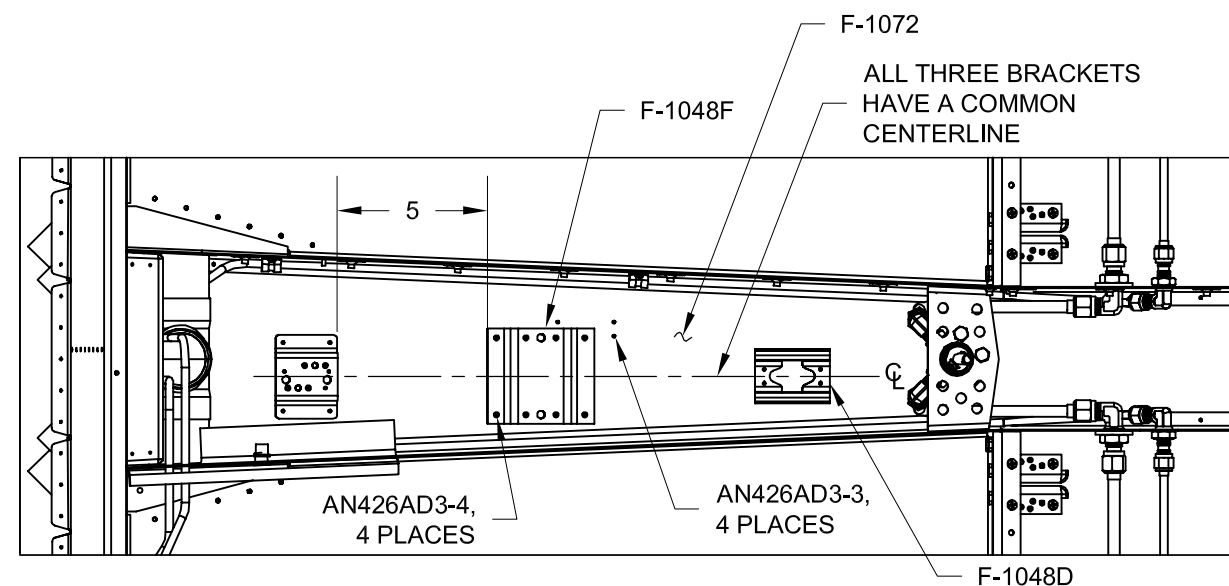
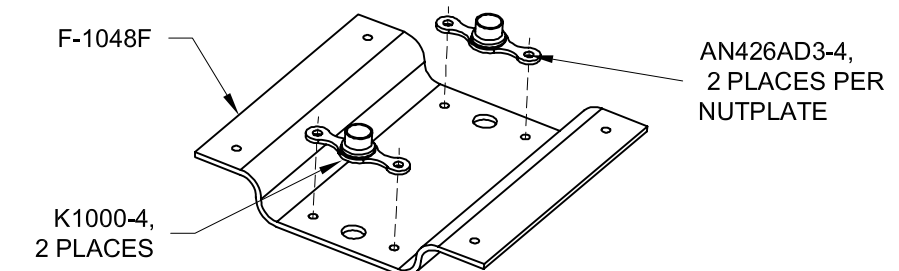

FIGURE 2: MATCH-DRILLING THE FACET FUEL PUMP BRACKET
FIGURE 3: INSTALLING NUTPLATES
Step 3: Remove the forward most F-1048D Fuel Filter Bracket. Position the F-1048F Facet Pump Bracket as shown in Figure 2, then match-drill #40 the four attach holes in the flanges of the facet pump bracket into the F-1072 Fwd Fuse Bottom Skin. Remove the facet pump bracket.
Step 5: Fill the four holes that attached the forward most F-1048D Fuel Filter Bracket with rivets as called out in Figure 2.
Step 7: Rivet two nutplates to the F-1048F Facet Pump Bracket as shown in Figure 3. Rivet the facet pump bracket to the F-1072 Fwd Fuse Bottom Skin per the callouts in Figure 2.